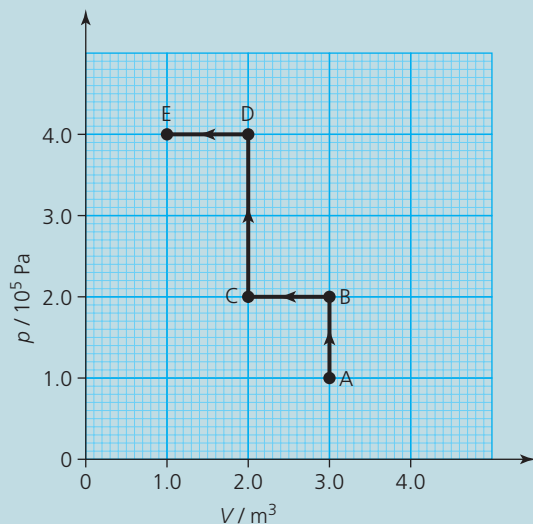

Figure 14
- 16.** A gas is compressed by a sequence of constant-volume and constant-pressure processes, as shown in the indicator diagram in Figure 14. Calculate the work being done *on* the gas in total from A to E.